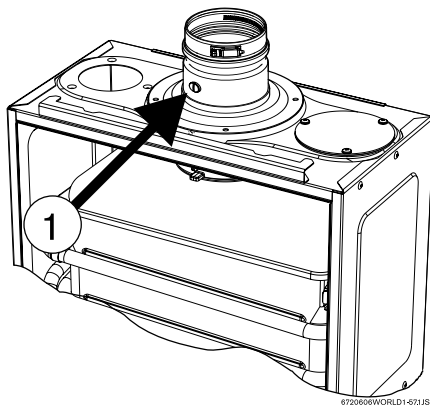

Fig. 44
- Loosen screw 1 (Fig. 44).
- Insert CO₂ analyzer into measuring port (Fig. 44, pos. 1).